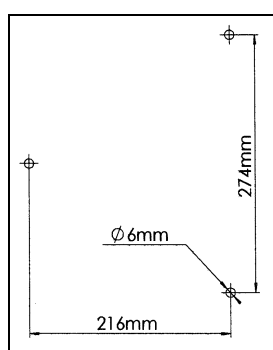

Figure 2: dimensions of mounting holes
Figure 2 shows the dimensions of mounting holes which have been pre-drilled on the machine frame.
1. Drill three holes in the workbench as the same dimensions as Fig. 2.